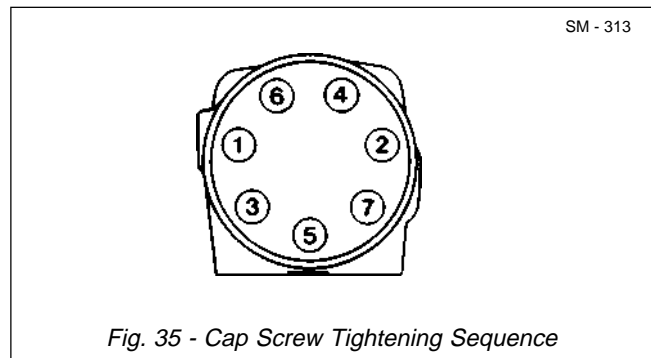

Fig. 35 - Cap Screw Tightening Sequence
24. Align cap screw (1) holes and install seven dry cap screws (1) in end cap (2). Pre-tighten cap screws (1) to 17 Nm (150 lbf in) then tighten to a torque of 31 Nm (275 lbf in) torque, in the sequence shown in Fig. 35.